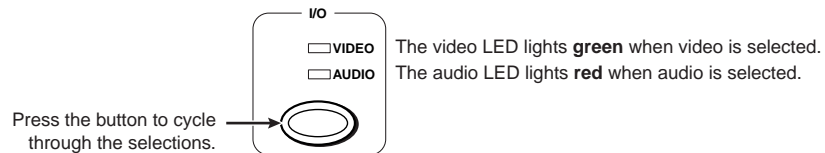

Figure 3-5 — Select video and audio
2. **TPX 88 A only** — To select video and audio for the tie, if necessary, press and release the I/O button until the LEDs light (figure 3-5).